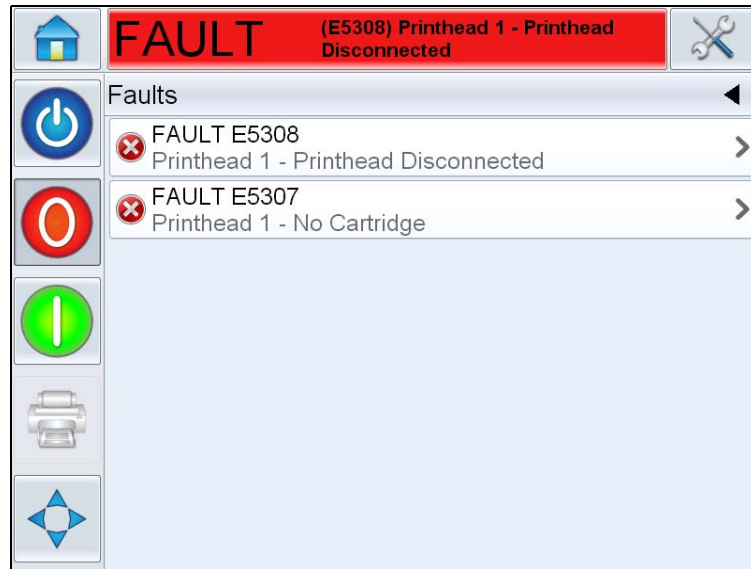

Figure 8-2: Fault Selection
- 1 Touch the red FAULT message to view the list of faults (Figure 8-2 on page 8-3).